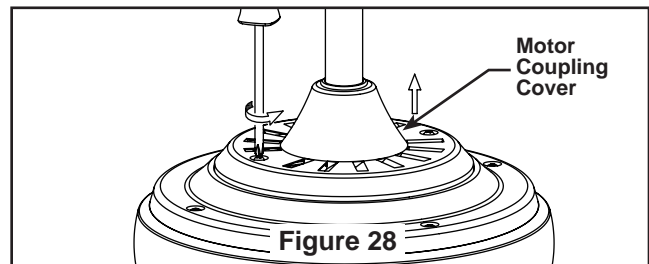

Figure 28
1. Remove motor coupling cover by unscrewing the two screws. (Figure 28)